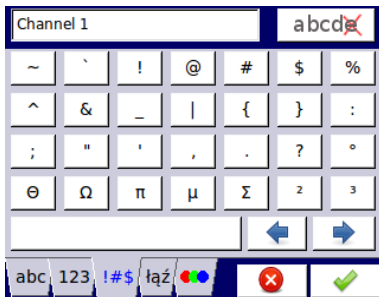

Fig. 7.3. Text editor – special symbols
- the special symbols, see **Fig. 7.3**,